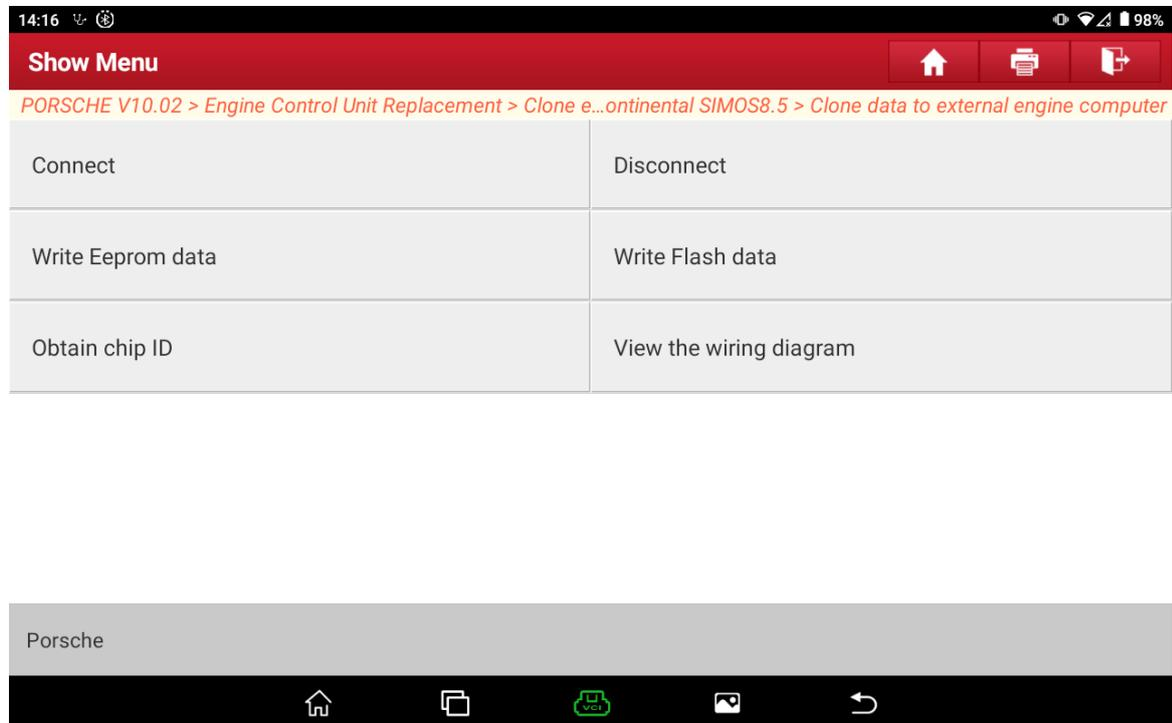

Figure 15
9. After obtaining the original engine computer data, return to the parent menu and select **【Clone data to external engine computer】**, the current menu is shown in Figure 15: